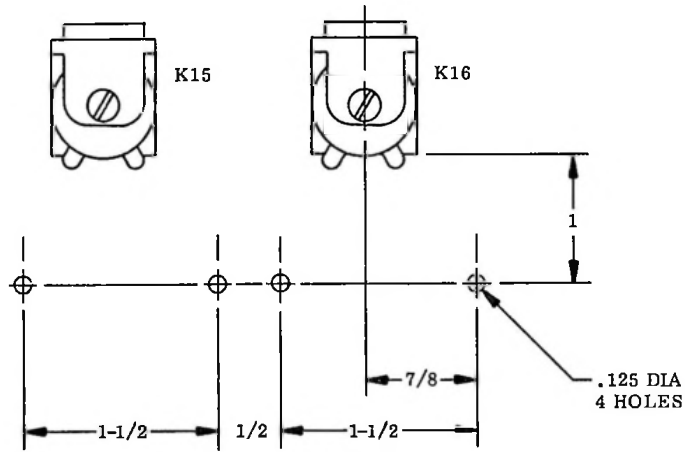

Figure 2. Hole Location
2. Locate and drill four .125 holes as shown in figure 2.